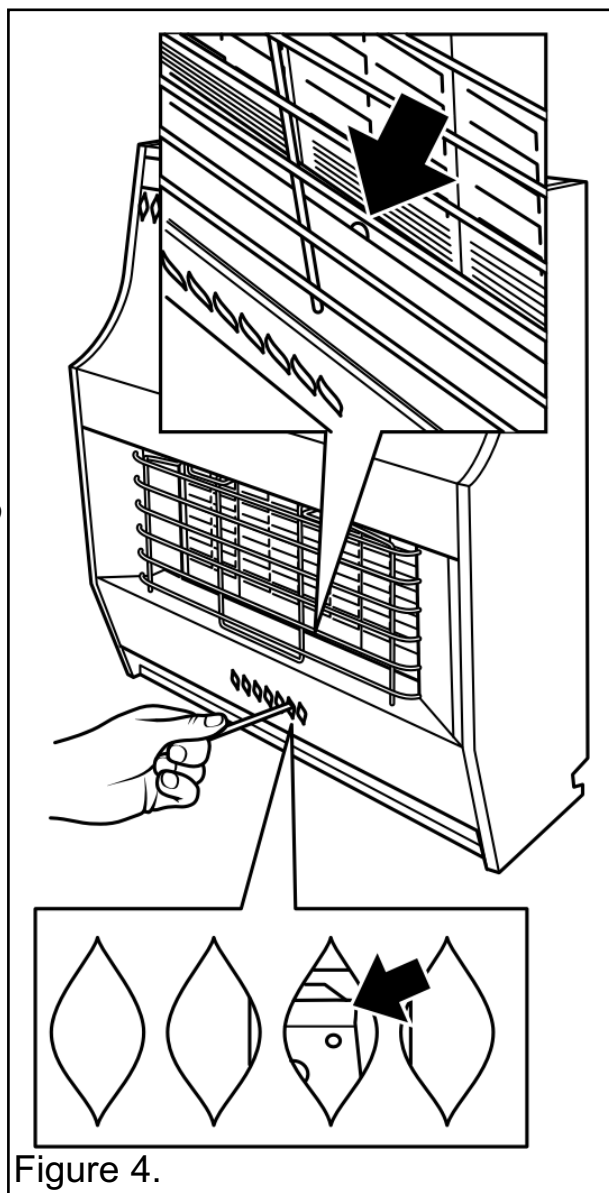

Figure 4.
- Depress the control knob slightly and turn anticlockwise towards the 1/IGN position. Do not apply too much pressure as this will cause resistance to be felt. Depress the control knob. Sparks should be generated at the pilot. The sparks should ignite the pilot. If the pilot does not light, turn the control knob back to the 'OFF' position and try again. The pilot flame can be seen through the opening immediately below the right hand centre radiant (See upper section of figure 4).
While keeping the knob depressed, light the pilot by inserting a long match or taper into the opening as in figure 4.